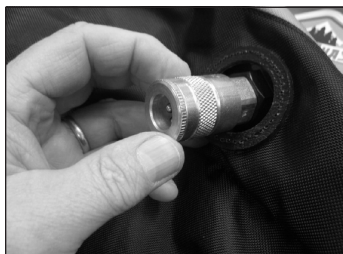

Figure 3.
3. With a flat blade screwdriver, pry the retaining ring out of the groove in the liner outlet fitting and push quick connect/liner inside of backpack. (See Figure 3.)